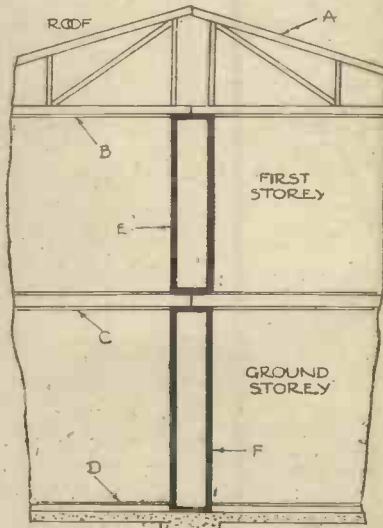

Fig. 79
- Fig. 79.—LOAD-BEARING PARTITIONS—DOUBLE TYPE. A, B and C—Roof, ceiling and floor structure deriving support from partitions. D—Ground floor. E and F—Double partition capable of supporting considerable loads if designed properly. (See next article.)